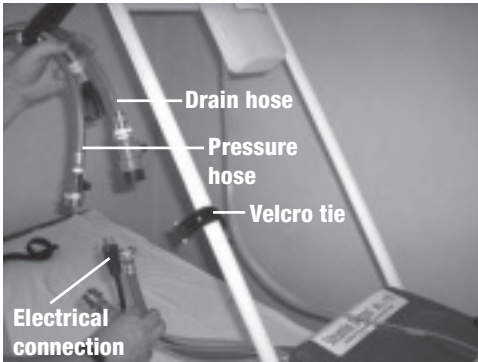

Figure 1: Removing hoses
2. Unswivel both pressure hose and drain hose swivel (fig. 1). Unplug electrical connection.